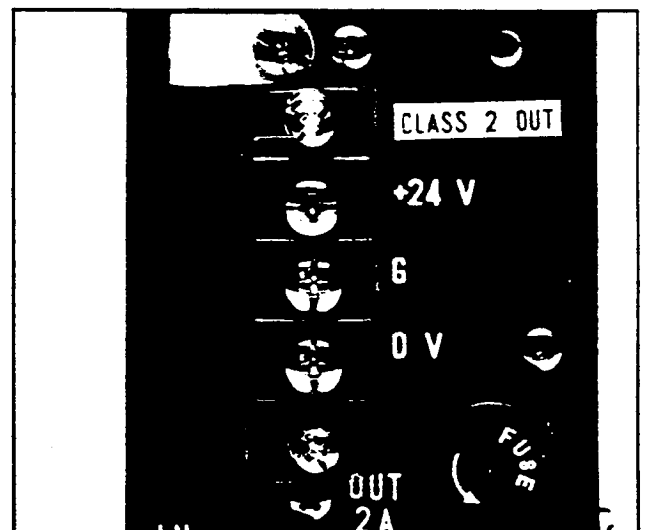

FIGURE 2—TERMINAL COVER
02.02 Remove the plastic terminal strip cover (Figure 2).